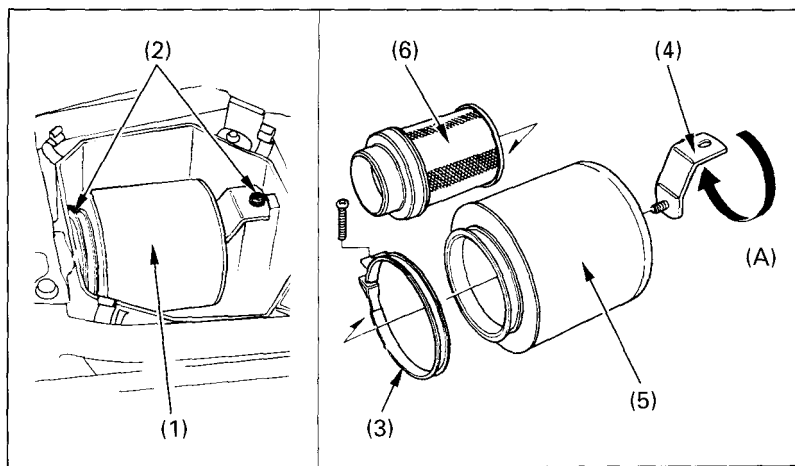

Fig. 4-6
3. Remove the screws (2) (Fig. 4-6) and remove the air cleaner assembly (1) from the case.
4. Unscrew the clamp (3) and remove the mounting bracket (4).
5. Remove the air cleaner (5) from the air cleaner body (6).